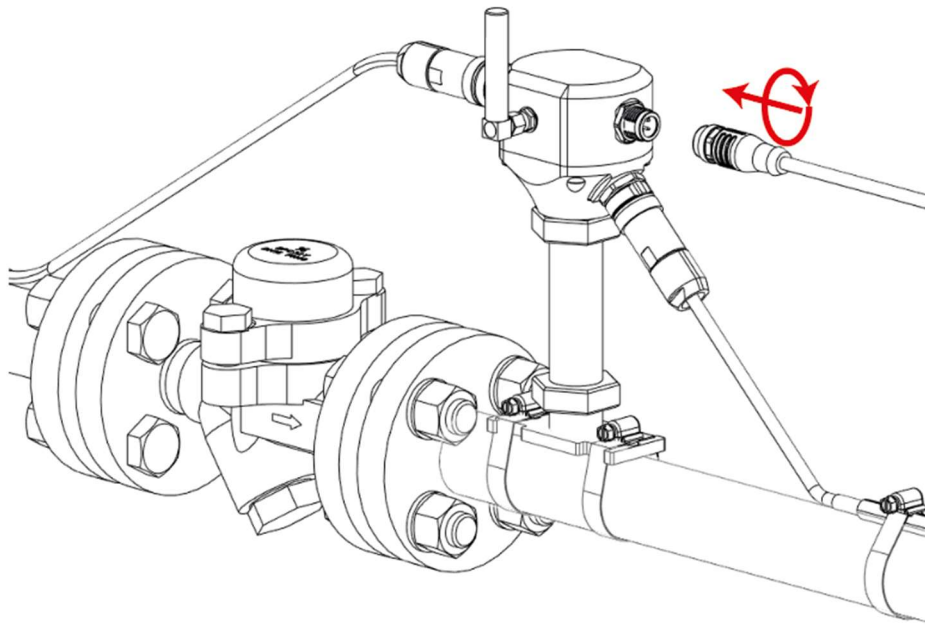
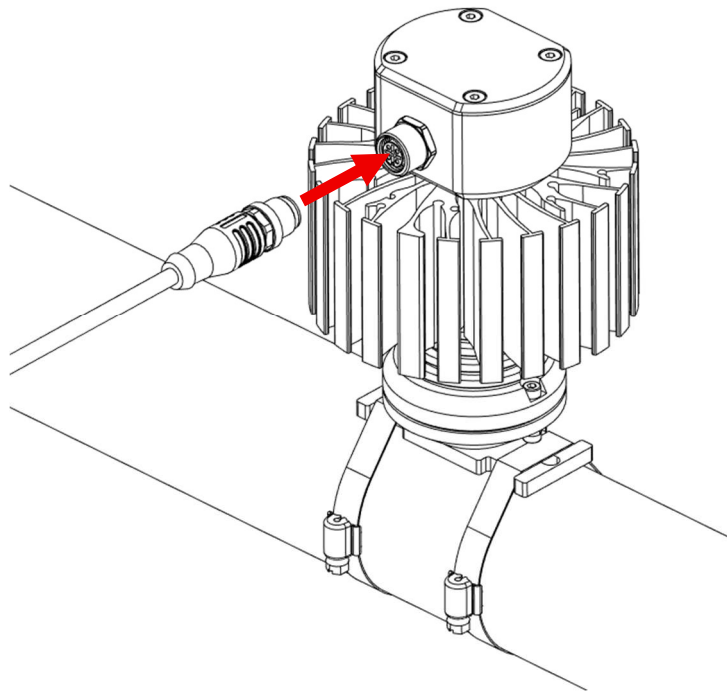

Figure 13.- Connecting the power supply to the InduEye®
Figure 14.- Power supply (Thermoelectric generator module – Tube mounting) connection
To supply power from the renewable power generator used such as a Thermoelectric generator (Figure 14) to the InduEye® LeakSense/TempSense module (Figure 13), the connection must be done via the power supply cable (CAB-0001) M12x1 A Code 4P Female connector.
2. Insert and screw the cable connection from the power generation module, in this case a Thermoelectric generator (male connector) to the InduEye® LeakSense/TempSense module power supply connector (female connector), as shown in Figure 13.